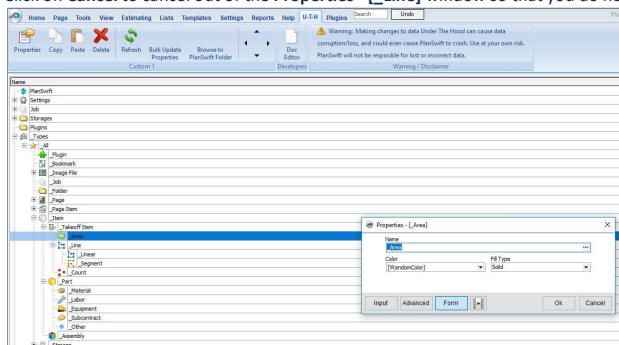

Figure 16
16. Click on **Cancel** to cancel out of the **Properties - [_Line]** window so that you do not save any changes. Now double-click **_Area** under **_Item** in Figure 16.